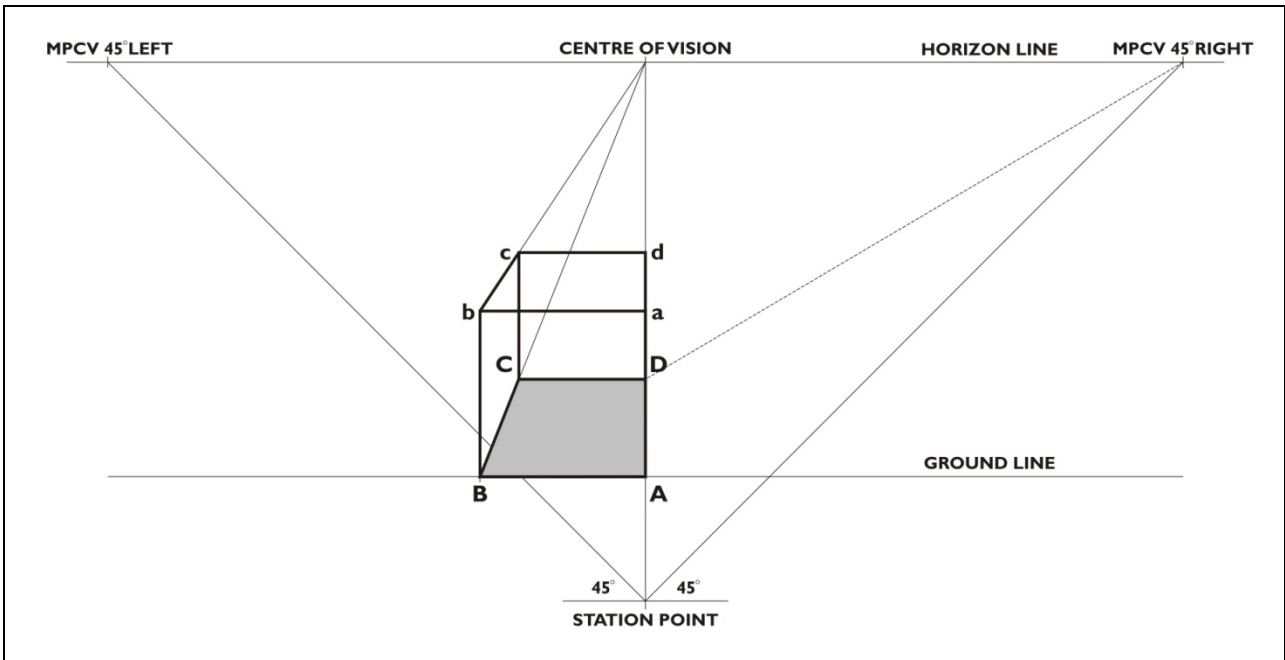

Figure 2.13 One-point perspective drawing of a cube on the ground
1. Project a line vertically from point C and establish point c. Refer to Figure 2.13.